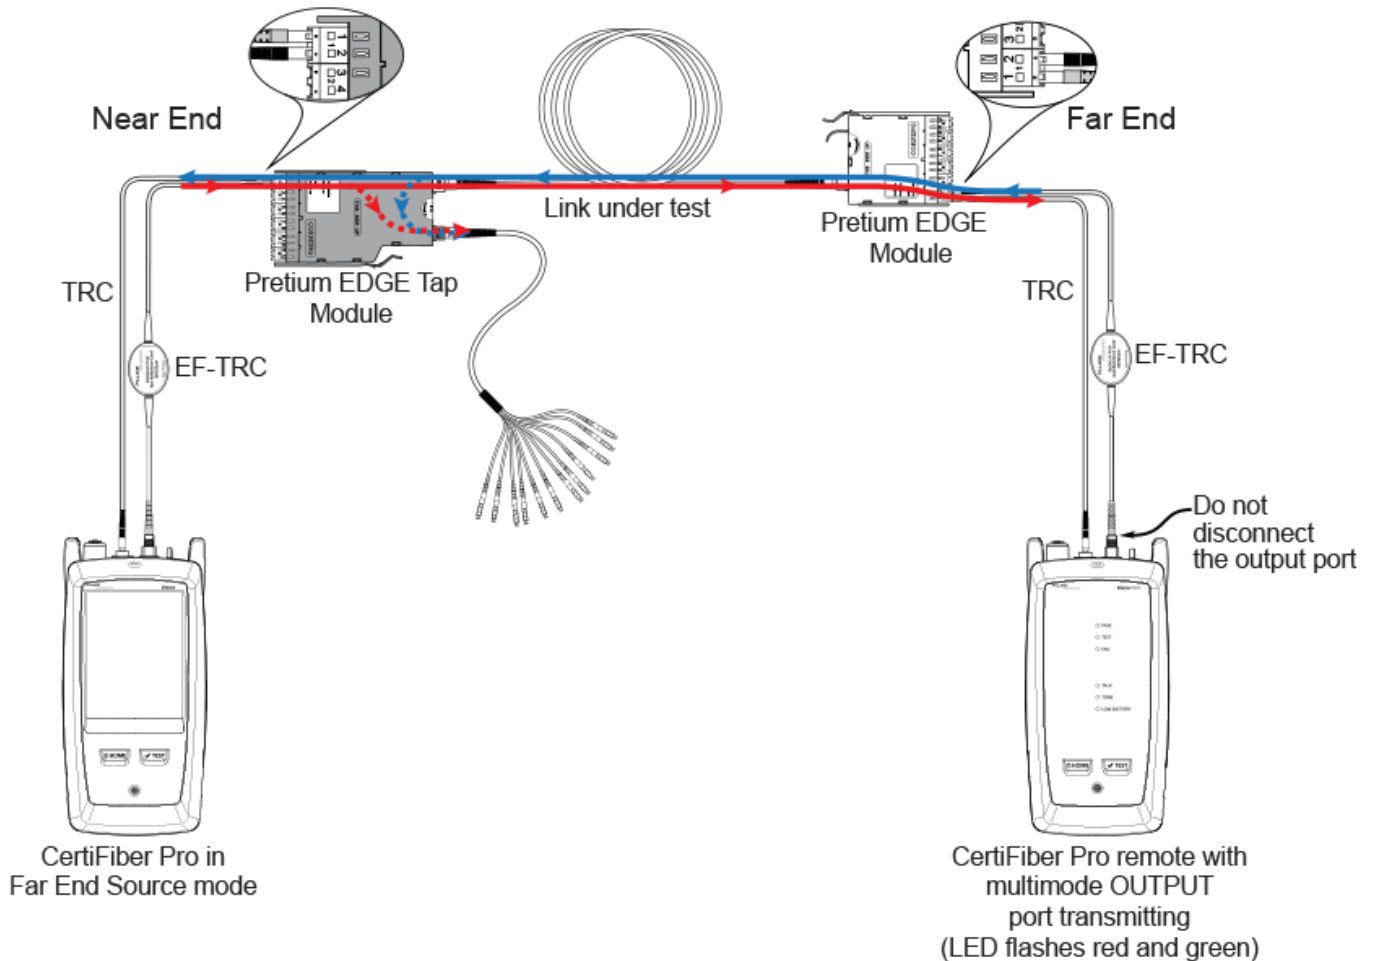

Figure 4. Connections for Testing the Network Links
1. Clean and inspect the LC connectors on the EDGE Tap and EDGE modules. 2. Connect the TRCs to the near and far ends of the links, as shown in Figure 4. 3. Press B. 4. If the test passes, save the results. If it fails, clean and inspect the connections again, or troubleshoot as necessary, then test again. 5. If the network links are different lengths, change the value for the Overall Loss @ 850 (dB) in your custom limit to the applicable loss budget value for the next link. (TEST SETUP screen > Edit > Test Limit > MORE > Custom > MANAGE > Edit.) 6. Repeat steps 2-5 for all the links.